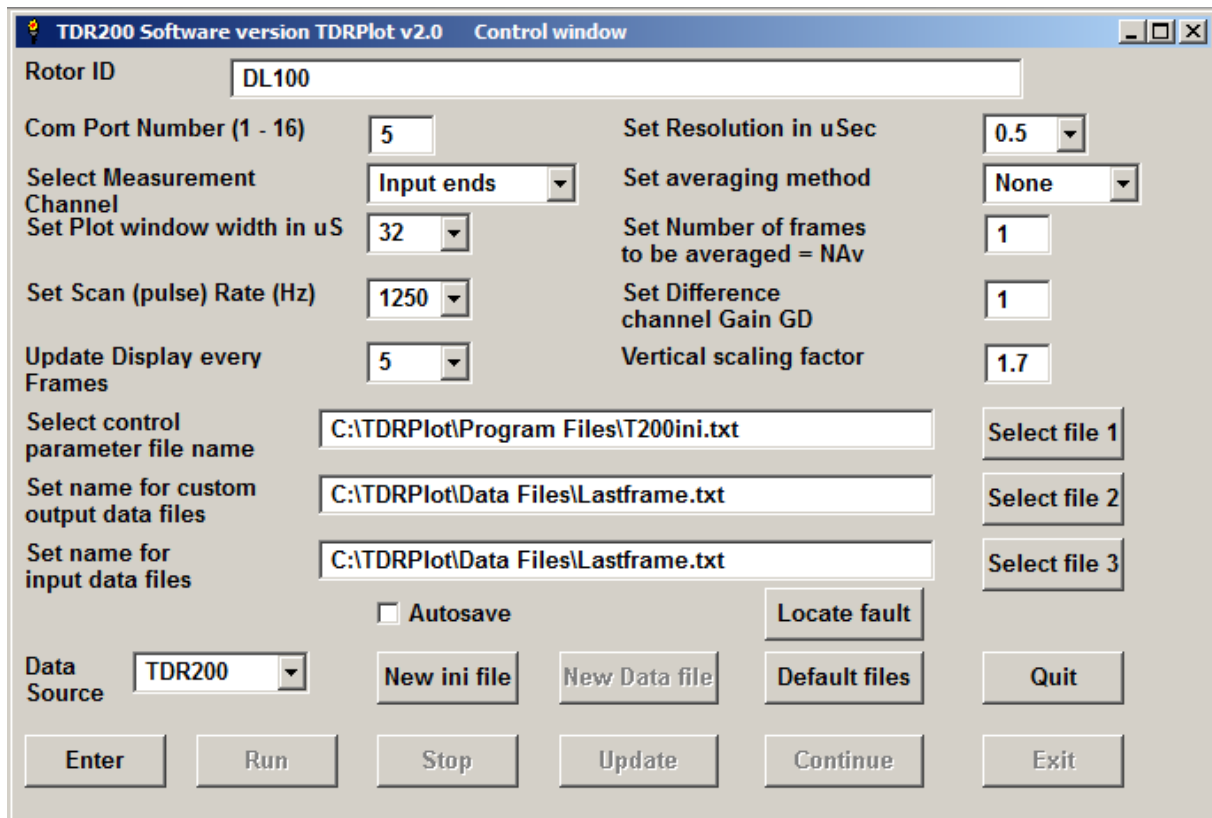

**Figure 2.2.3 Initial TDRPlot screen**
**TDRPlot Desktop icon** . The program will run and the **TDRPlot screen** will open as shown in figure 2.2.3.
The **TDRPlot screen** (shown in fig. 2.2.3 above) contains 3 windows: